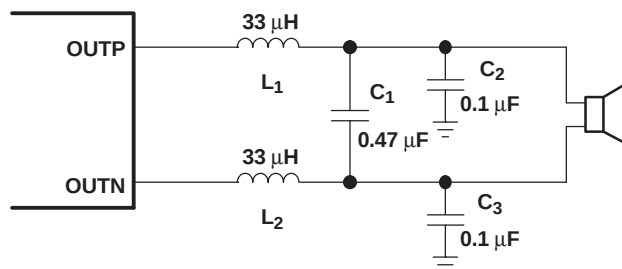
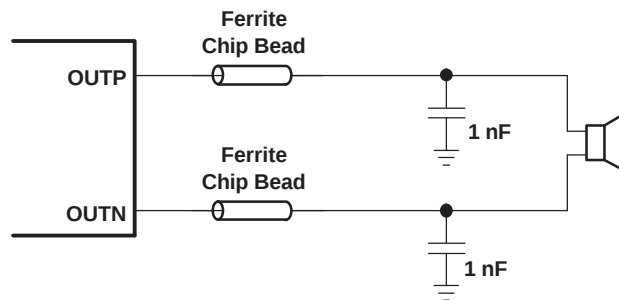

Figure 19. Typical LC Output Filter, Cutoff Frequency of 27 kHz, Speaker Impedance = 8 Ω
Figure 20. Typical Ferrite Chip Bead Filter (Chip bead example: Fair-Rite 2512067007Y3)
- **Output filter**—The ferrite EMI filter (Figure 20) should be placed as close to the output terminals as possible for the best EMI performance. The LC filter (Figure 19) should be placed close to the outputs. The capacitors used in both the ferrite and LC filters should be grounded to power ground. If both filters are used, the LC filter should be placed first, following the outputs.